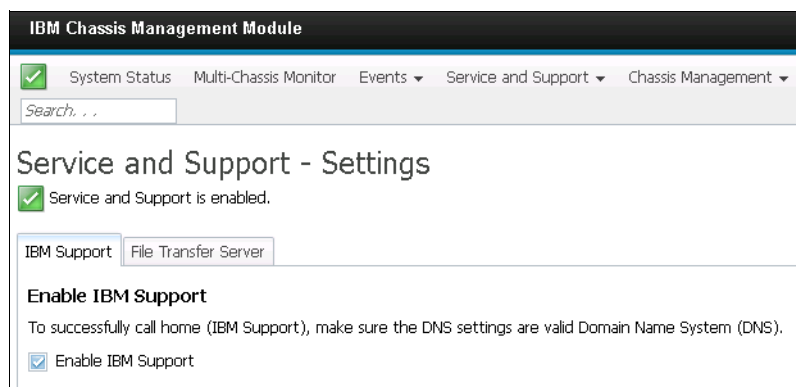

Figure 7-24 Lenovo Support enabled on CMM
6. Click **Apply** to enable Lenovo Support and acknowledge any confirmation notices as they appear. Lenovo Support is now enabled, as shown in Figure 7-24.